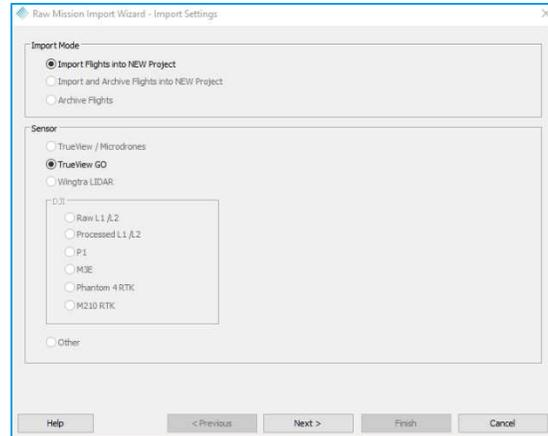

Figure 8 - First page of Import Cycle Wizard for a NEW Project
3. Select **Cycle Import**  on the **Sensor** tab (Figure 7) to open the *Raw Mission Import Wizard*. If the wizard is run outside of an existing LP360 project, then it will create a new project. If you run the wizard from within an existing project, the occurrences of "NEW" in Figure 8 are replaced with "CURRENT".
Selecting **Cycle Import**  on the Sensor tab brings up the first page of the Raw Mission Import wizard (Figure 8).